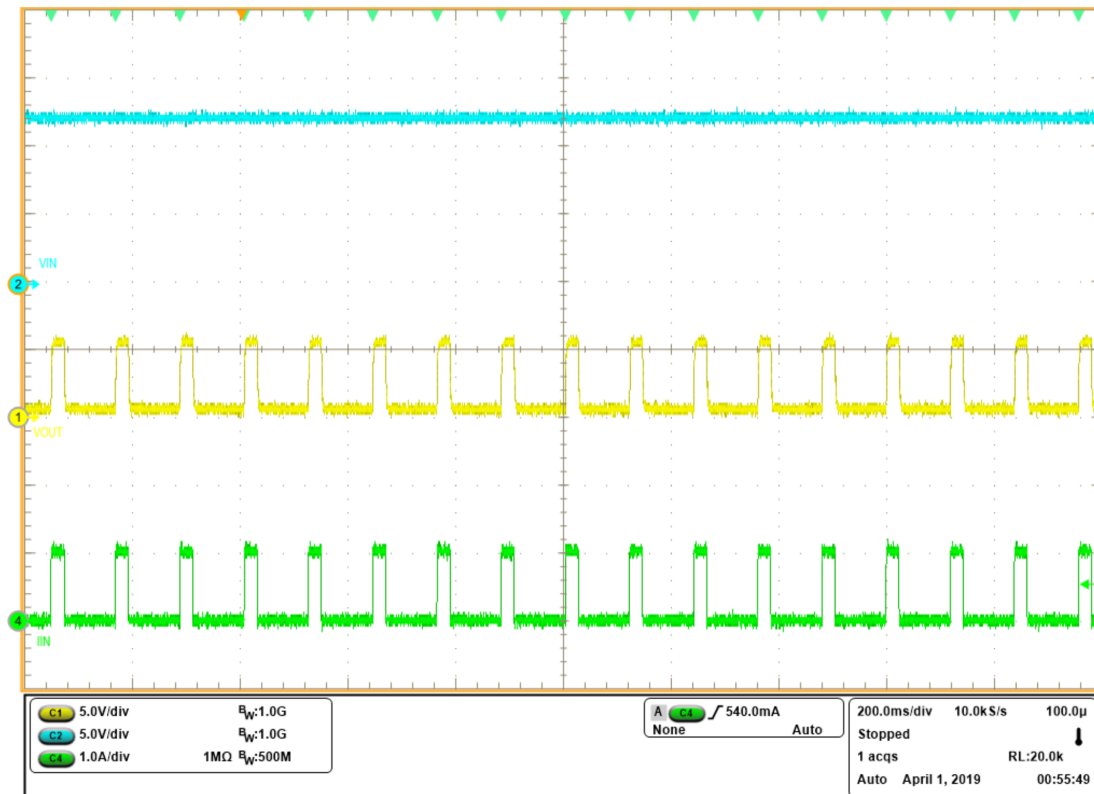

Figure 3. J4 = 3-4, Current Limit (1.0 A) Test Auto Retry (CH1)
3. Set the output load at 5.0 $\Omega \pm 0.5 \Omega$ on CH1 and then enable the load. Turn on the VIN1 power supply and verify that input current is limited, as per the setting in the Table 9. Verify the device is in auto-retry mode and that the FLTb1 RED LED (D3) turns on and off as shown in Figure 3. The level of the current pulse should match with the load current limit (based on the respective jumper setting), as shown in Table 9.